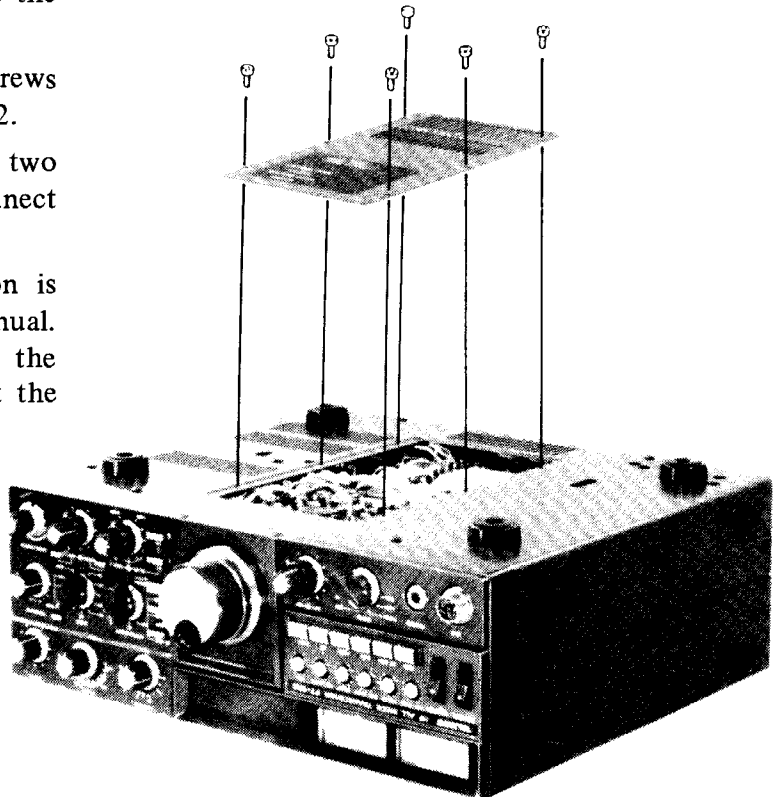

Figure 1
1. Place the FT-102 upside down on the work surface, and remove the six screws and the bottom sub-panel as shown in Figure 1.